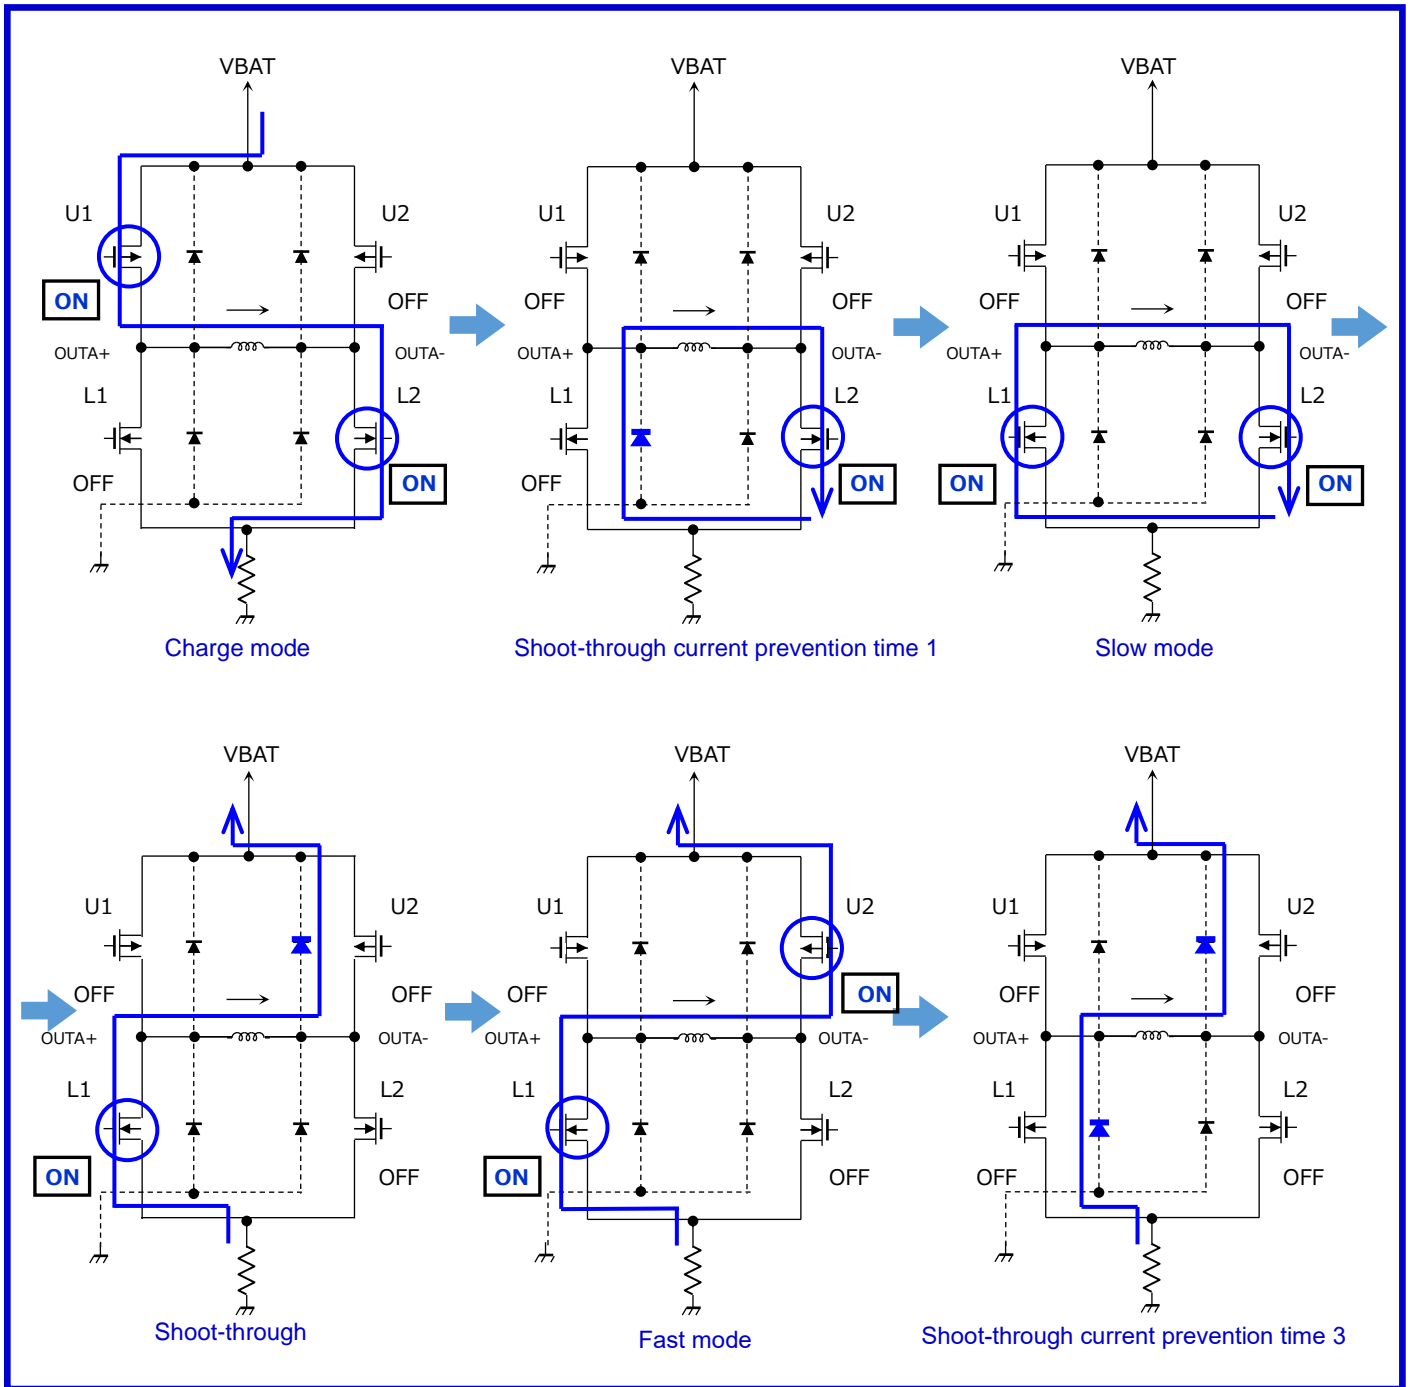

Figure 6. Shoot-through current prevention time illustrated by an H-bridge circuit diagram
- During shoot-through current prevention time, the system applies current to the diode shown in Figure 6 (blue).